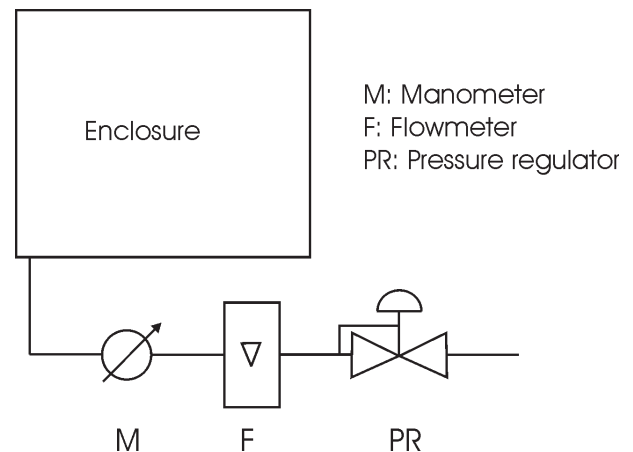

Fig. 4-2: Setup for Enclosure Tests
- Connect an external source of compressed air as described in the drawing on the next page (fig. 4-2).